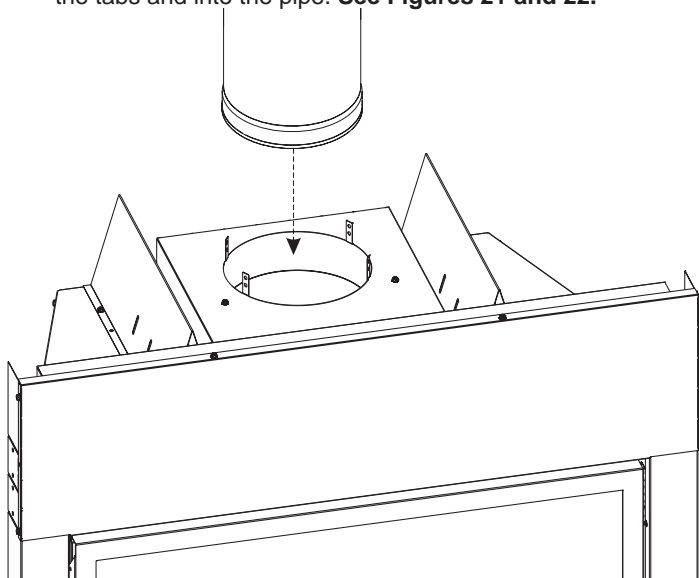

Figure 21
2. Insert the first piece of pipe and secure with 4 screws through the tabs and into the pipe. **See Figures 21 and 22.**